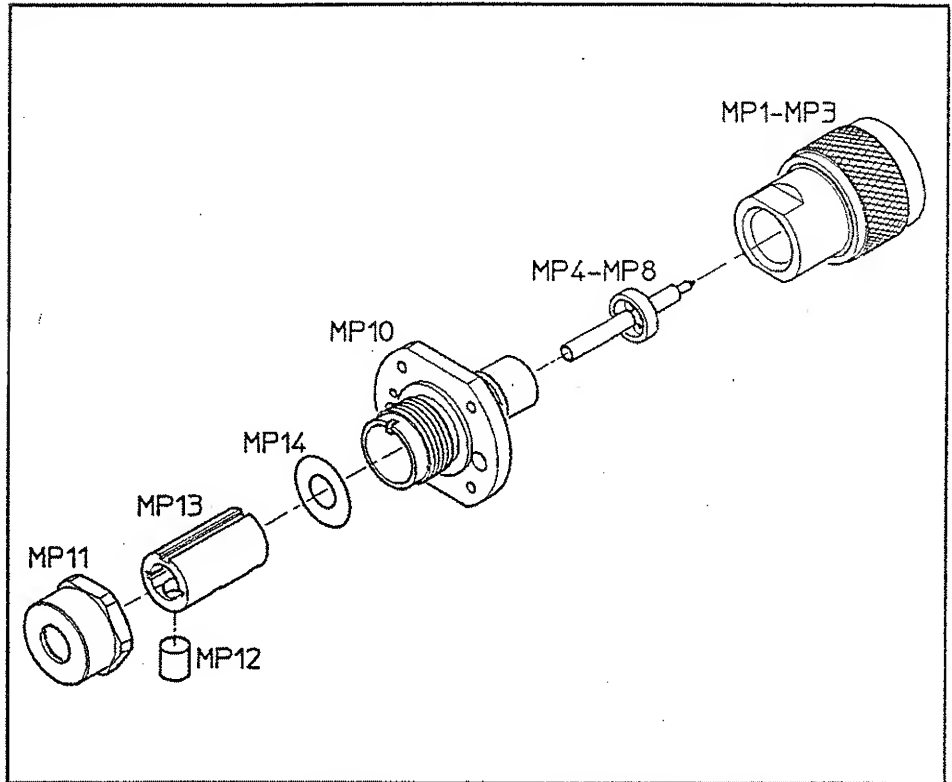

Figure 8. A1 Bulkhead Illustrated Parts Breakdown
7. Screw the bulkhead into the center pin assembly as shown in figure 8.
3. Position the Power Sensor as shown in figure 8 (top). The small hole 5 should be on the left side of the RF input connector. Remove the allen cap screws 1, 2, 10, and 13. Loosen 11 and 12. Remove the upper chassis from the Power Sensor.